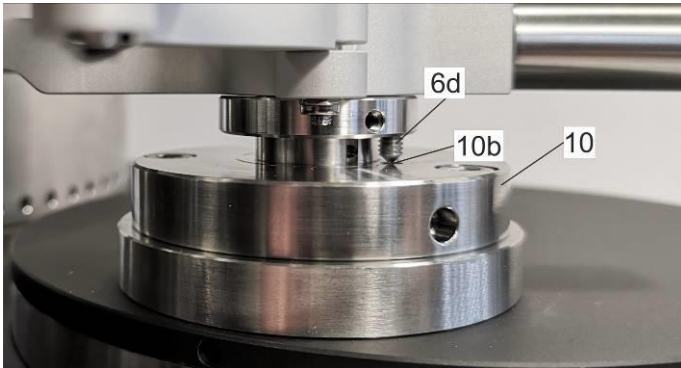

Figure 19
- a) **VTA adjustment screw [6d] must be screwed in and rest in a pit [10b] of the tonearm base [10] (Figure 19).**